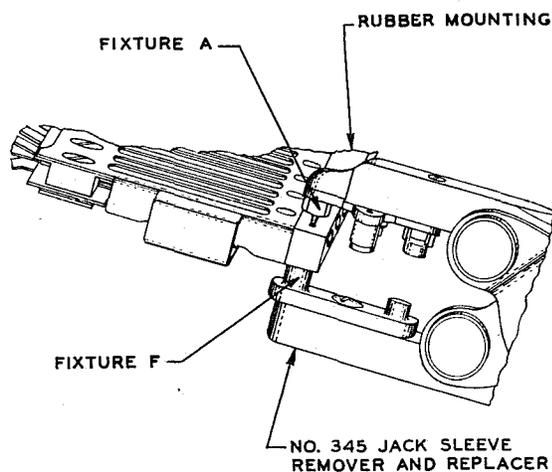

Fig. 5 - Method of Removing Sleeve Pin
3.07 To remove the sleeve, on a jack equipped with a pin to hold the sleeve in position in the rubber mounting, first punch out the pin, using fixture A of the No. 345 jack sleeve remover and replacer, with fixture F applied under the rubber mounting, as shown on Fig. 5. Remove the pin with the long-nose pliers.